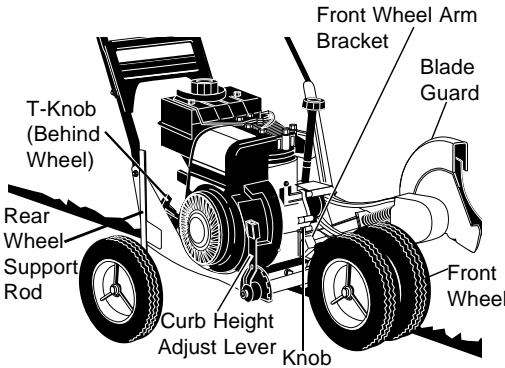

FIG. 4-OP
- Loosen T- knob on the inside right rear of the main frame that secures the wheel support rod as shown in **Fig. 4-OP**.